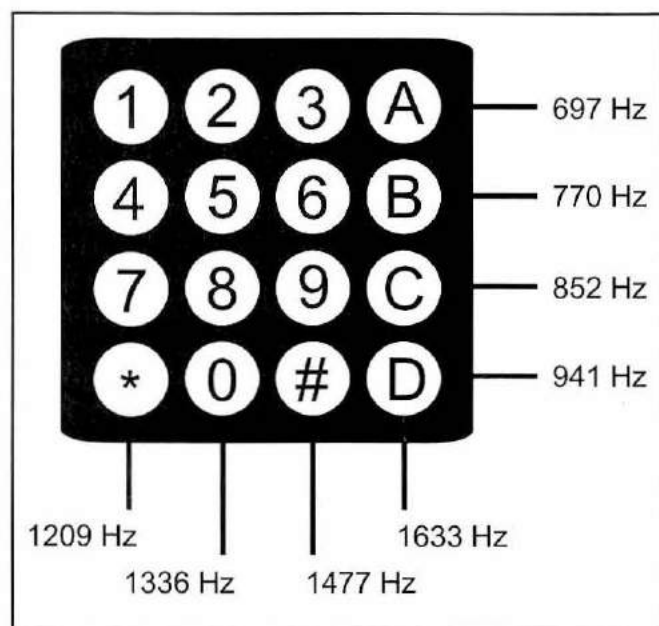

Fig 2-24—The high and low tones associated with DTMF Touch Tones.
**A** The DTMF Touch-Tone system uses pairs of audio tones to represent various keys. There is a “low tone” and a “high tone” associated with each button (0 through 9, plus \* (star) and # (octothorpe or pound symbol)). The low tones vary according to which horizontal row the tone button is in, while the high tones correspond to the vertical columns. See Fig 2-24. The tones and assignments are as follows: